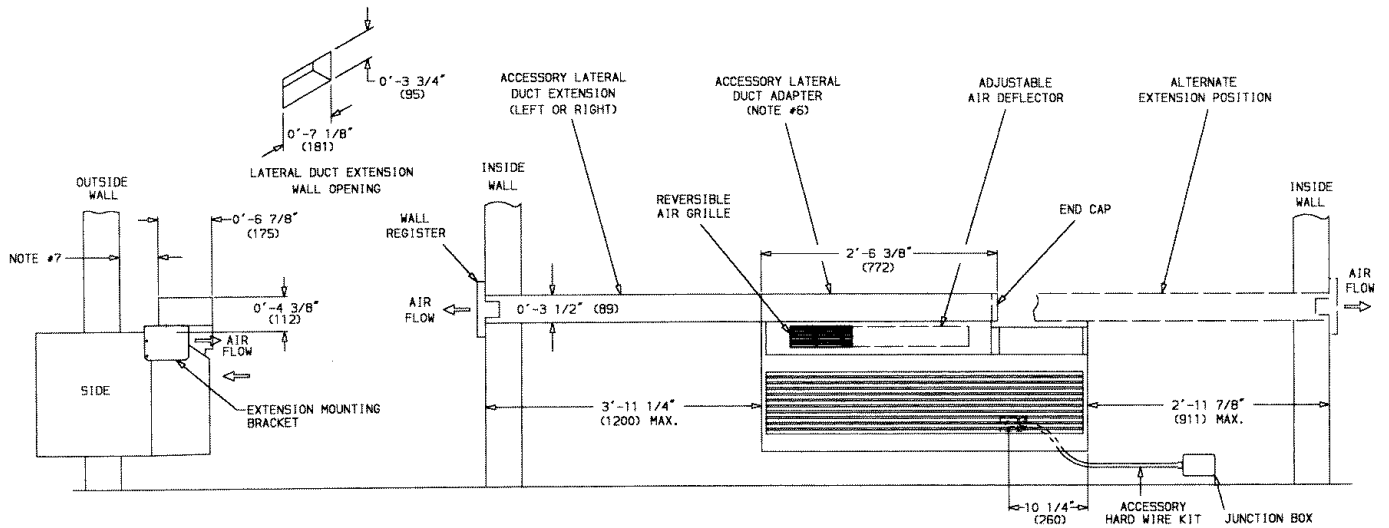

FIGURE 7 — 52S LATERAL DUCT
1. For lateral airflow applications, an accessory lateral duct must be used. Refer to Figure 7.